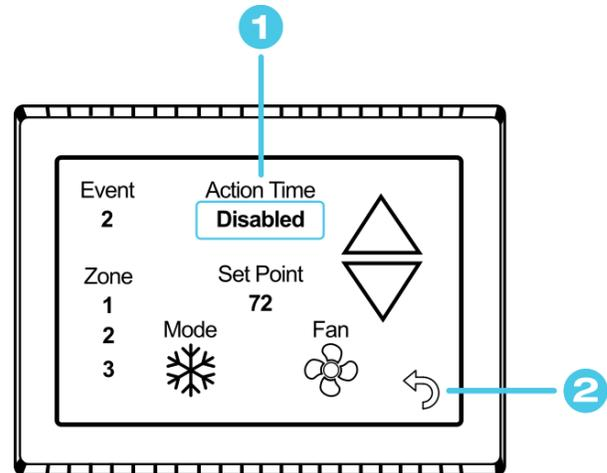
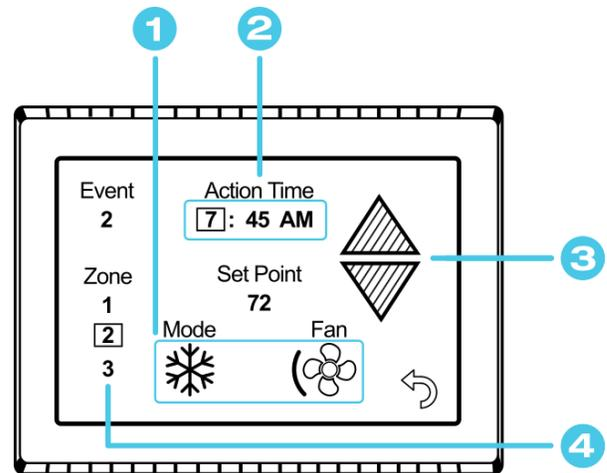

Figure 5 - Schedule Edit Screen (Disabled Event)
Figure 6 - Schedule Edit Screen (Enabled Event)
Figure 5 shows the edit screen when an event is tapped as shown in (8) *Scheduled Events* of *Figure 4 - Main Schedule Screen*. The event time on the main schedule screen and Action Time in the edit schedule screen will show disabled until a time is set. Tap “Disabled” (1) at the top of the screen to show a gray box around the Action Time to select it. The up and down arrows change to full color once a selection is made. Use the arrows to make a change to what is selected. Use the back arrow (2) to save any changes and leave the screen.
Figure 6 shows the schedule edit screen once a valid time is set for the event.
2. Ensure that a valid (7) *System Time* is shown. Tap the day you want to set up a schedule for, then the event you want to edit, all shown by *Figure 4*. Tapping the event will take you to the edit schedule screen, shown by *Figure 5* and *Figure 6*.
5. Tap the back button once again to return to the settings screen. Activate the schedule by pressing the schedule button with the “Enabled/Disabled” subtext as described in the *Schedule – Edit, Enable or Disable* section in settings. When enabled, it may also be noted on the (9) *Info Screen*, under the *Main Screen*.